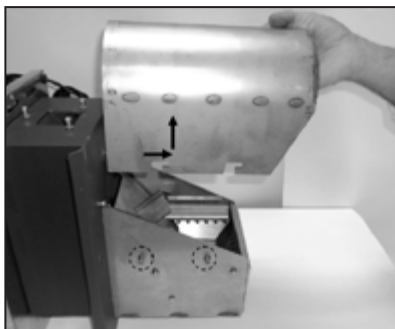

Figure 11-11: Removal of burner hood
- Remove the burner hood by loosening the two M5 bolts (highlighted below) each side of the brazier. Slide the hood forwards and then up to disengage the hood from the burner. Refer to Figure 11-11.